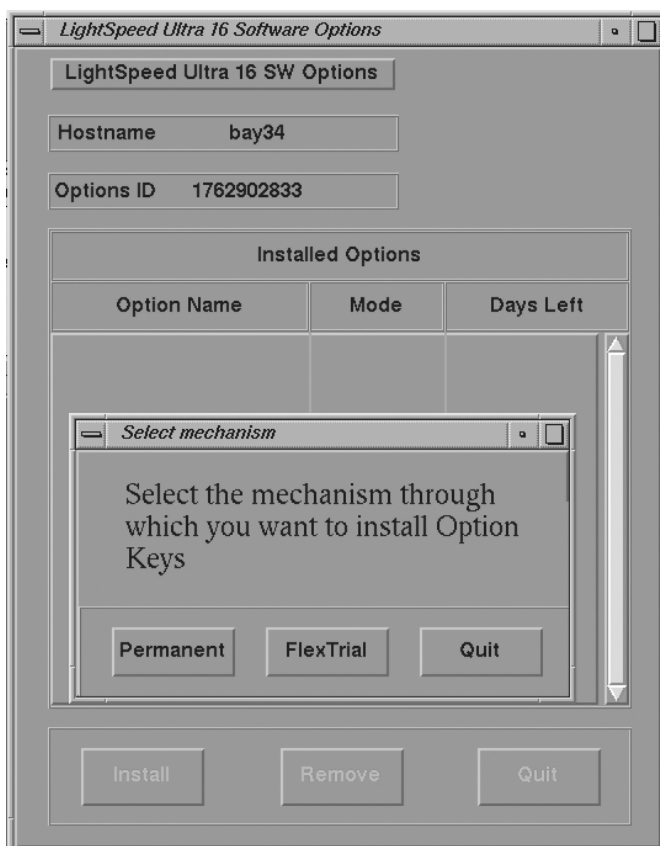

Figure 4-7 Options Window when First Selected
- 4.) Select INSTALL OPTIONS and click START. The console displays the Software Options window as shown in Figure 4-7.
- 13.) Click on the ACCEPT button. The system will check valid setup entries, execute a perl script that makes changes to the configuration files for HIS/RIS, and return to the Software Option window shown in Figure 4-7.